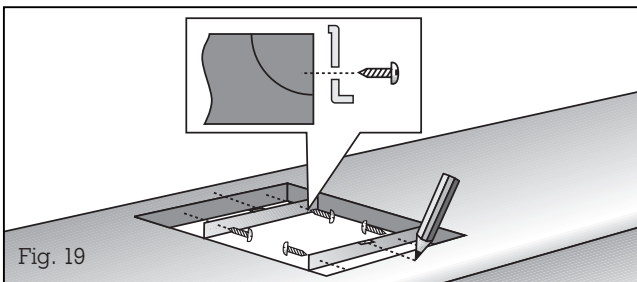

Fig. 19
– **Mark the centre of the recess exactly.** Secure the securing rails on the front and rear edges of the recess. Make sure that the lugs of the securing rails lie on the worktop and that the centre marking of the securing rails is precisely flush with the centre marking on the worktop (Fig. 19).